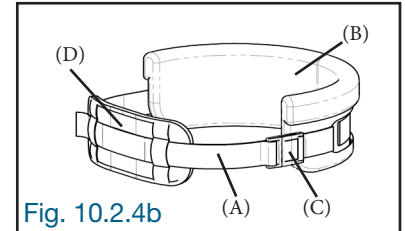

Fig. 10.2.4b
The strap (A) of the thoracic rest (B) should be adjusted and tightened to the user's body to hold it in place. To do this, adjust the length of the strap (A) by sliding it over the buckle (C) until the required length is achieved. Once the length is determined, securely attach the buckle (C). For better comfort, the cushion (D) should be centered on the user's back (Fig. 10.2.4b).